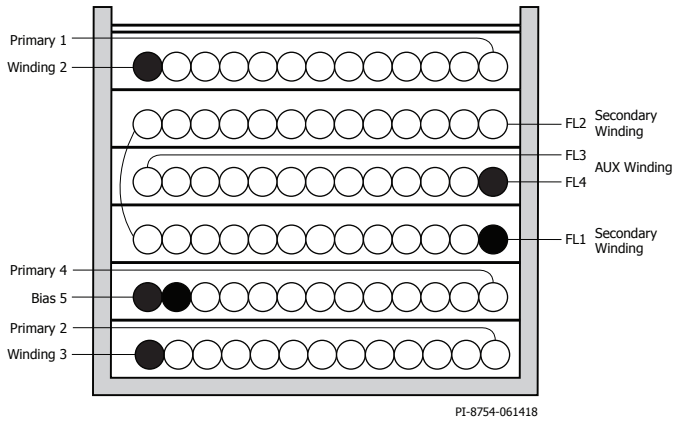
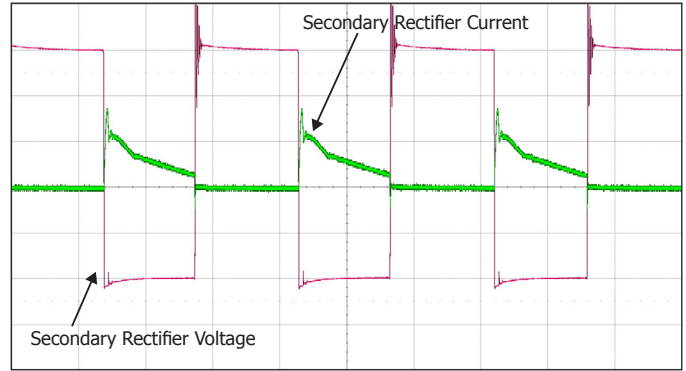

Figure 26. Sandwiched Secondary Auxiliary Winding Transformer Construction.
Figure 29. Secondary Rectifier Waveforms with Ultrafast Diode and Sandwiched Auxiliary Windings.
2. Use sandwich auxiliary winding technique (Figure 26). The coupling between the secondary and auxiliary windings allows the current signal to be sensed by the controller. Figure 29 shows the FWD pin voltage waveform when using sandwiched auxiliary technique.